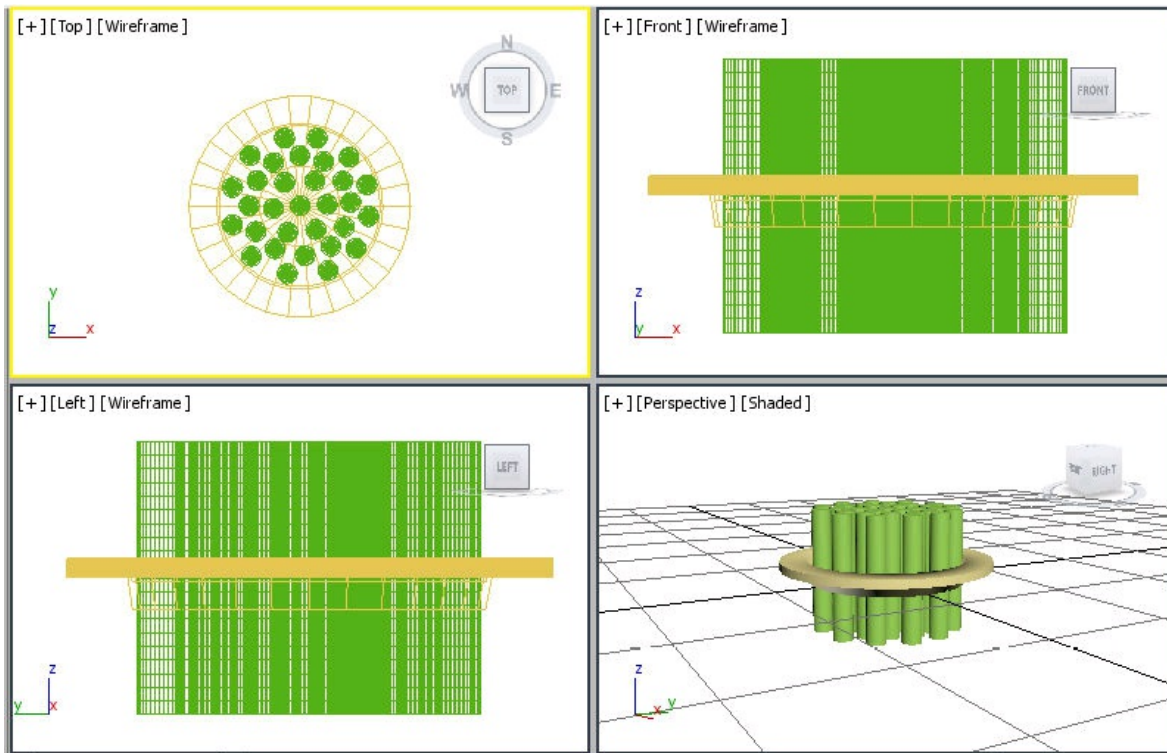

Figure 10-66 Cylinders created and aligned
8. Create copies of the cylinder according to the radius of *sieve* and arrange them, as shown in Figure 10-66.